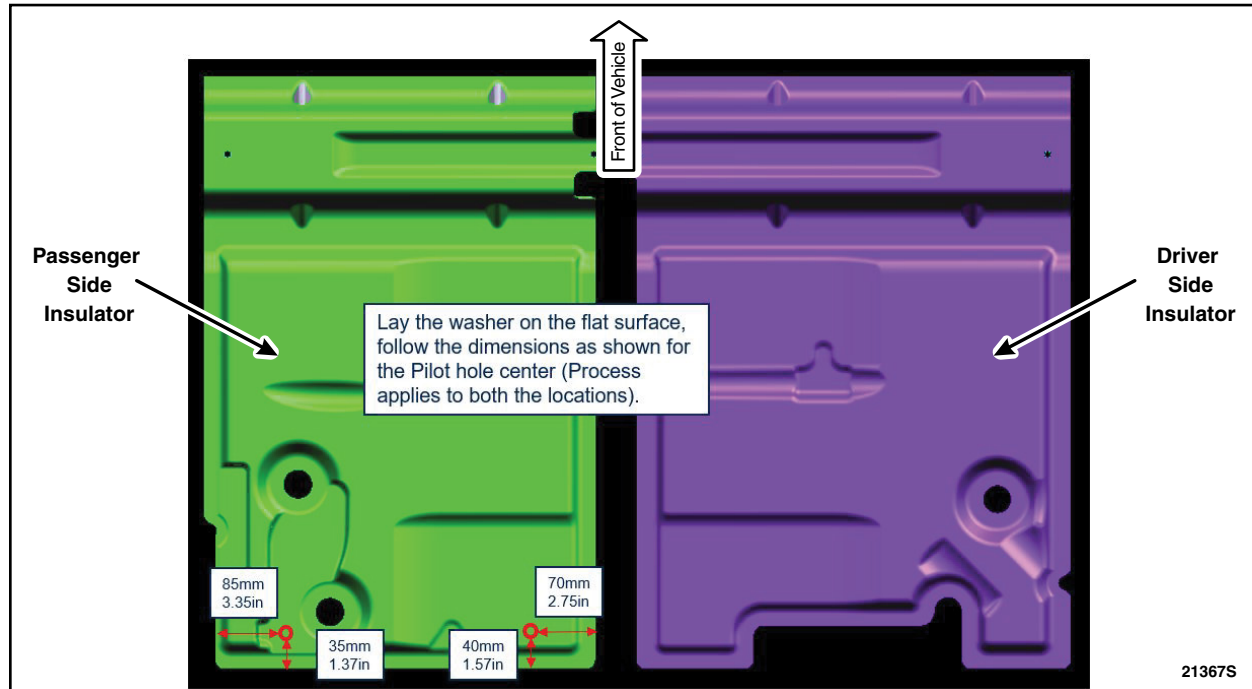

FIGURE 4
5. Measure and mark the two locations on the passenger side insulator. See Figure 4.